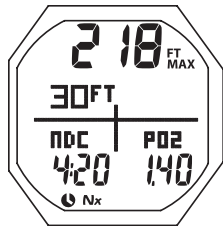

Fig. 32A - PDPS
**PDPS**, information includes (Fig. 32A/B):